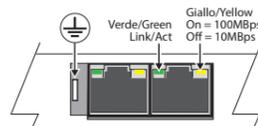

Fig. 4
- always connect the male faston near the Ethernet connectors to earth (Fig. 4)